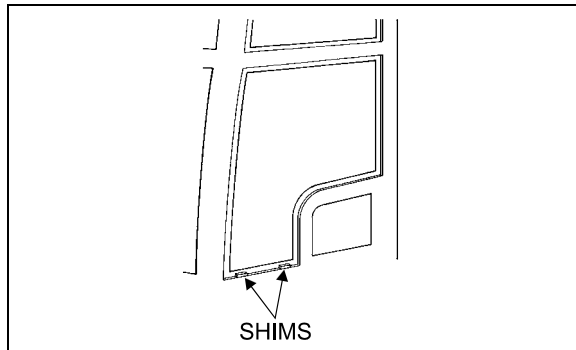

FIGURE 35: ADHESIVE-MOUNTED WINDOW 18079
**Note:** Use small shims to raise the glass in proper position. Shims can be cut from the tremshield tape (Fig. 35).